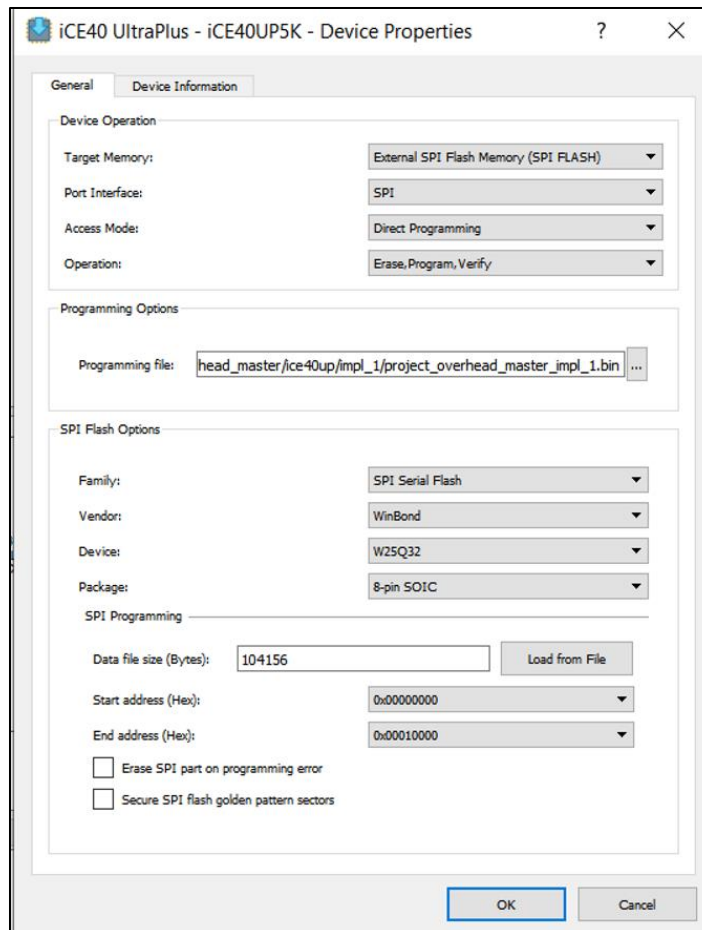

Figure 8.4. Lattice Radiant Programmer: Device Family and Device Setting
6. In the **Device Properties** dialog box, apply the settings below. See Figure 8.4.